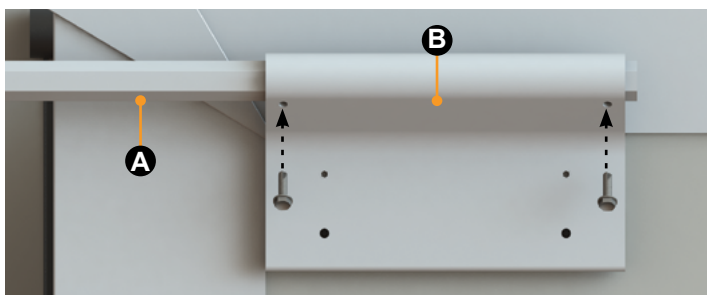

Fig.21
10. Fasten the extension rods (Fig.21A) to the access brackets (Fig.21B) by installing two of the provided #10 - 16 x 3/4" self-drilling hex washer head screws (Fig.21).